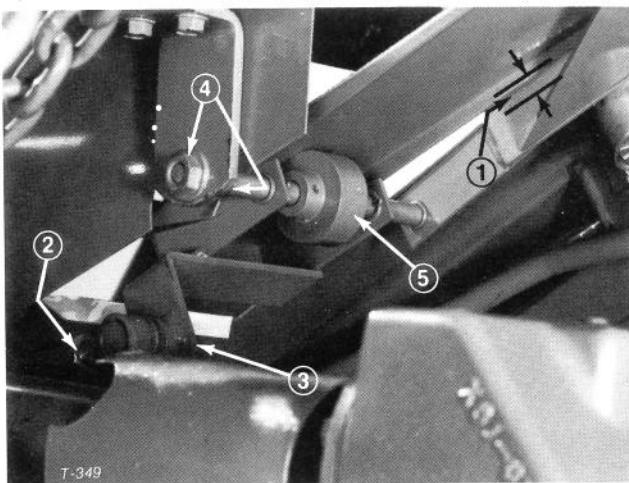

Figure 43
2. Depress traction pedal fully. There must be 1/16 inch (1.6 mm) between inside front edge of pedal and triangular support brace (Fig. 43). If distance is as specified, the control rod is adjusted correctly. If distance is not as specified, proceed to step 3 for an adjustment.
3. Loosen jam nut away from front of control rod (Fig. 43). Remove cotter pin and slotted nut retaining tapered socket in pivot mount on bottom of traction pedal (Fig. 43).
1. Loosen two nuts securing traction pedal shaft on right side of pedal (Fig. 43).